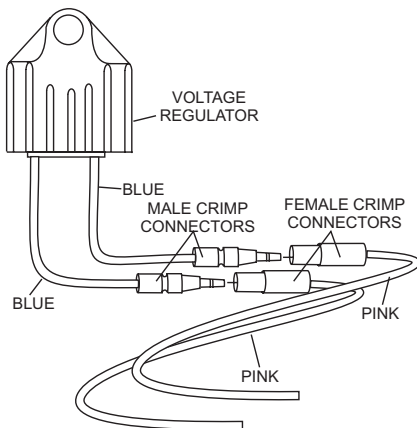

Figure 7. Regulator Blue Wire Connections
- Crimp each pink wire (Figure 7) with a female crimp connector.
- Insert, pink wire (2) with the female crimp connector into blue wire (2) on the voltage regulator with the male crimp connector. Orientation of wires does not matter.